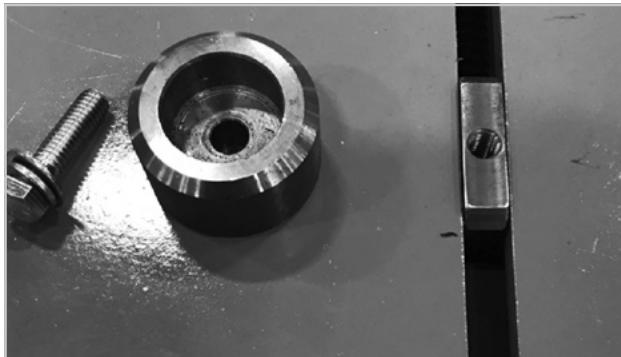

Figure 71
1. Remove the 3/8" hex bolt in the puck using a 9/16" socket (Figure 71)